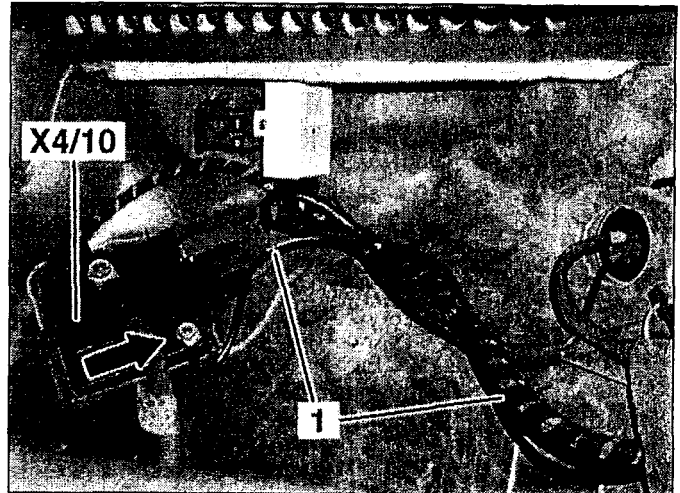

Figure 2
1. Route new interior blower motor wiring harness (1, Figure 2) with ring connector from the right fuse box (F1/1, Figure 3) into the right front footwell.
2. Route new interior blower motor wiring harness (1, Figure 2) along existing cables to the cable connector and fuse box terminal 30 (X4/10) and secure with cable ties.
3. Connect ring connector to designated M8 screw connection and torque M8 nut (arrow, Figure 2) to 9 Nm. (+ / - 1 Nm).